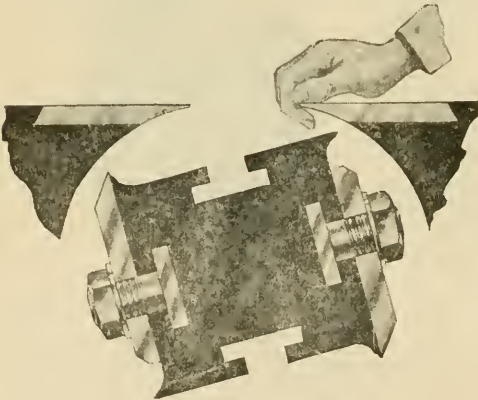
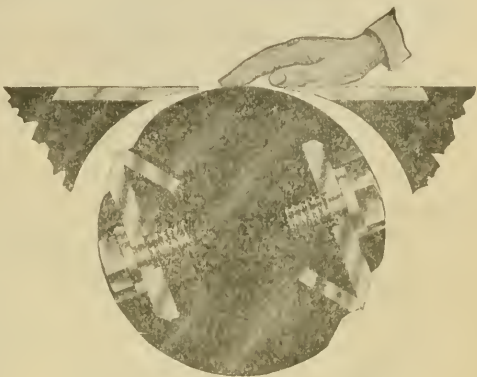

FIG. 4.—SQUARE HEAD.
FIG. 5--SAFETY HEAD
7. **THE HEAD--** Formely all jointers were equipped with square heads, illustrated in Fig. 4, but these are so much more dangerous to the operator because of the fact that in case of accident one is apt to have an entire hand or at least most of the fingers of the hand drawn into the machine. This can be verified by comparing the larger opening, Fig. 4 with that of the circular head, Fig. 5. While it is still dangerous to the operator to get his fingers in the machine,
2. Use a guard at all times, except when dadoing. Good types are shown in Figs. 5 and 6.